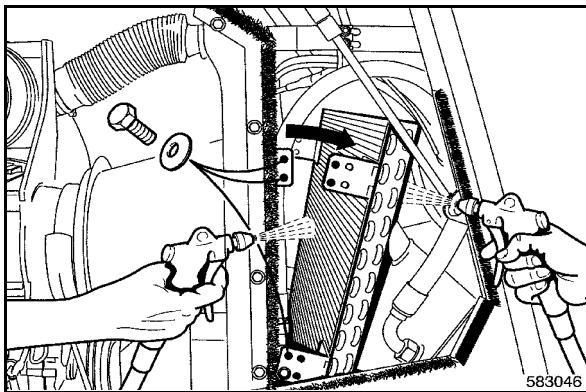

Fig. 144
- Unscrew the condenser fastening screws (Fig. 144) and fold the condenser forward.